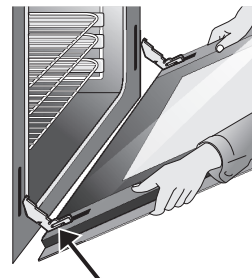

Figure 43: Holding door for removal
3. Grasp both sides of oven door along the door sides. Do not use the oven door handle (See Figure 43).
4. Keep pulling the bottom of the door toward you while rotating the top of the door toward the appliance to completely disengage the hinge levers (Figure 43).
1. Firmly grasp both sides of oven door along the door sides. Do not use the oven door handle (See Figure 43).
2. Holding the oven door at the same angle as the removal position, seat the hook of the hinge arm over the roller pins located on each side of the oven door frame (See Figure 43). The hook of the hinge arms must be fully seated onto the roller pins.